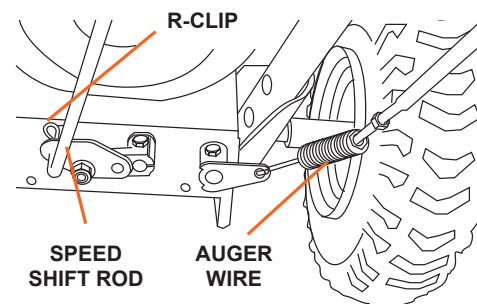

Figure 3
3. Attach the auger wire on the right side of the snow blower (see Figure 3). Remove the R-clip that connects the auger wire to the control lever on the handlebars, then slip the wire off. Attach the other end of the auger wire with the spring mechanism to the connection and reattach the auger wire to the control lever reinserting the R-clip. After connecting the wire adjust the tension. The wire should be taught when connected. (See Control Wire Adjustment, page 23).